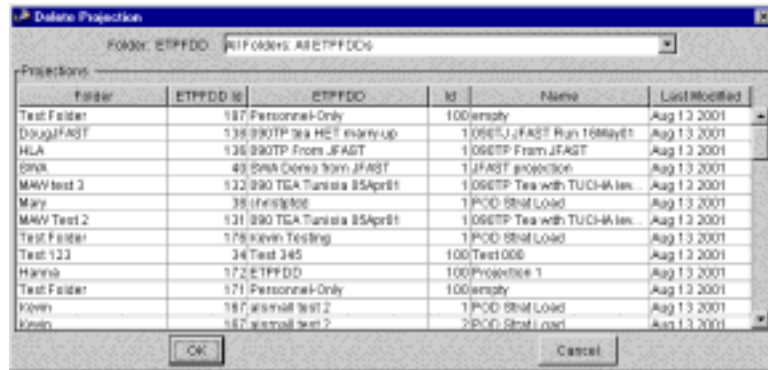

Figure 5.223 Delete Projection Window
1. On the ETEdit (main) window, on the Projection menu, click the Delete command. The Delete Projection window opens (Figure 5.223).